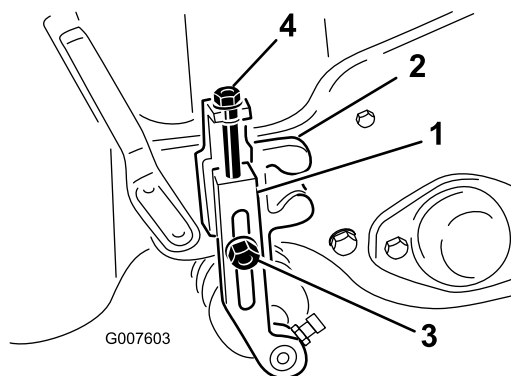

Figure 54
2. Loosen the locknuts that secure the height-of-cut arms to the height-of-cut brackets (Figure 54).